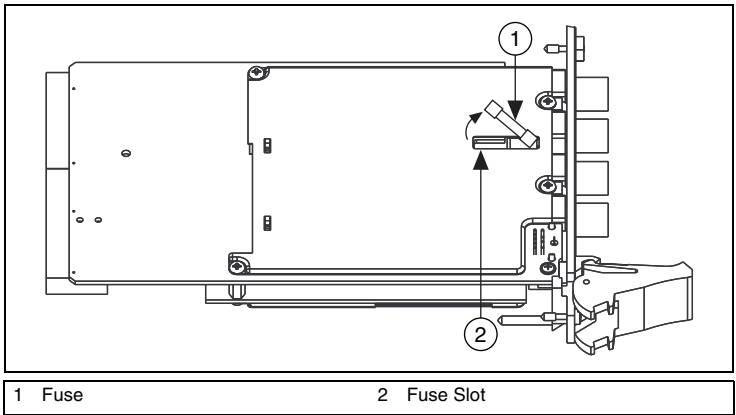

Figure 19. Removing the Fuse from the NI PXI-4070 or NI PXI-4072
6. Locate the fuse slot shown in Figure 19.